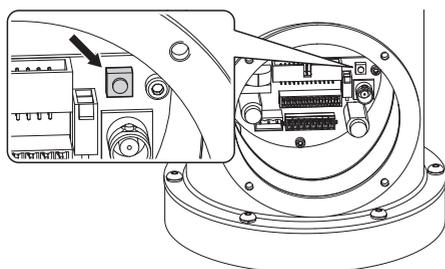

Fig. 14
- Press and hold the reset button (P1, Fig. 14, page 18).